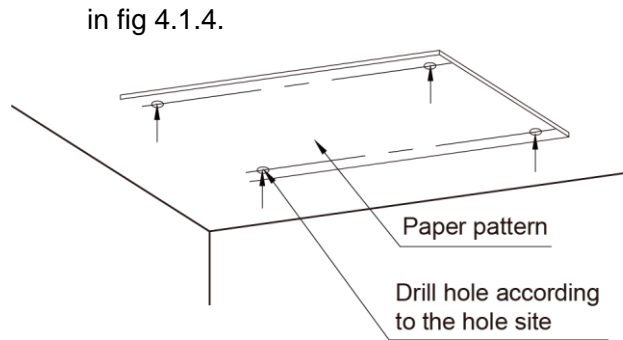

Fig 4.1.3
- 1) Stick the reference cardboard on the installation position; drill 4 holes according to the hole site on the cardboard as shown in fig 4.1.3; diameter of drilling hole is according to the diameter of expansion bolt and the depth is 60-70mm(2-3/8~2-3/4 in.), as shown